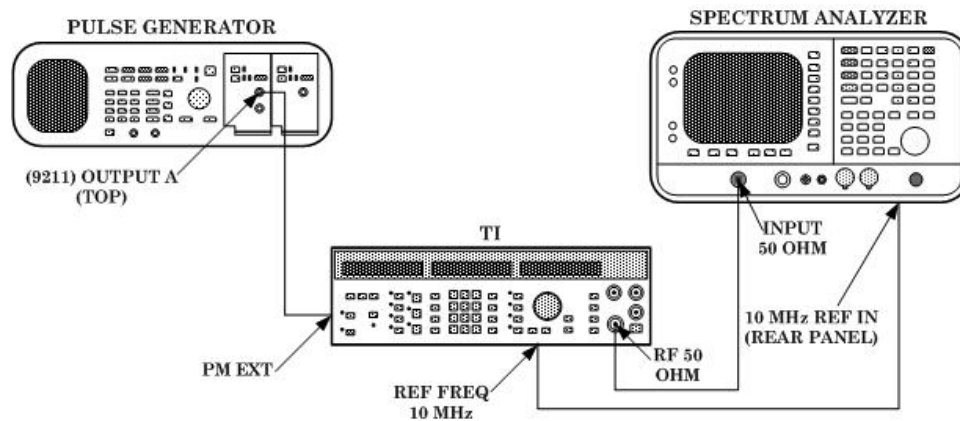

Figure 9. Pulse modulation.
(1) Connect equipment as shown in figure 9.